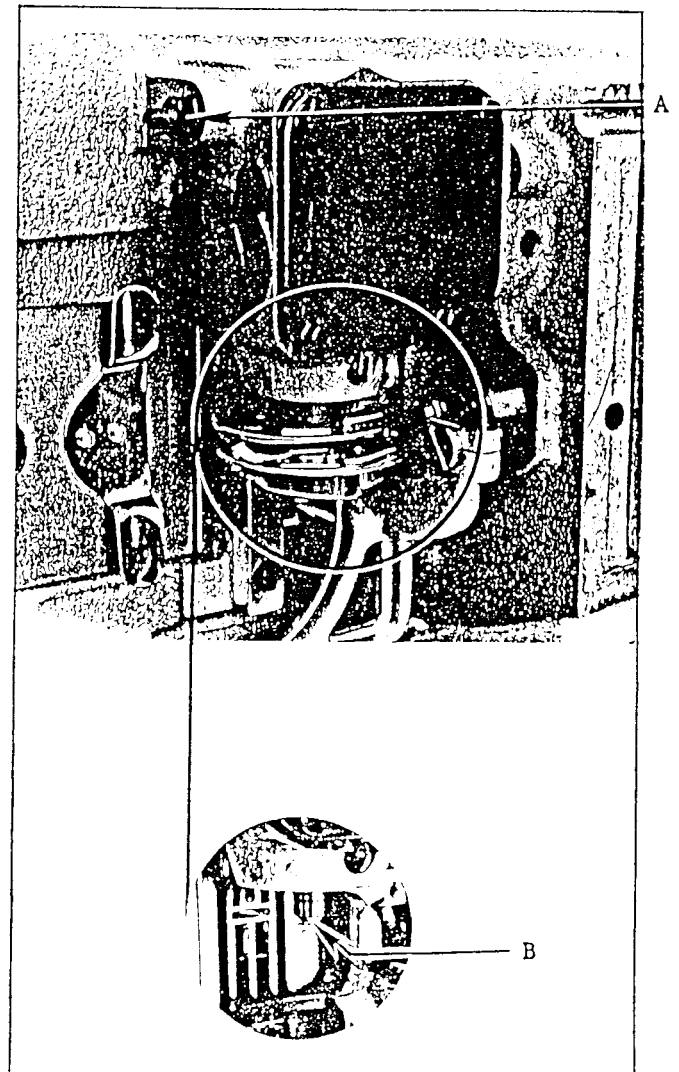

Fig. 4
2. Adjust the oil flow by turning the regulating screw A, Fig. 4.